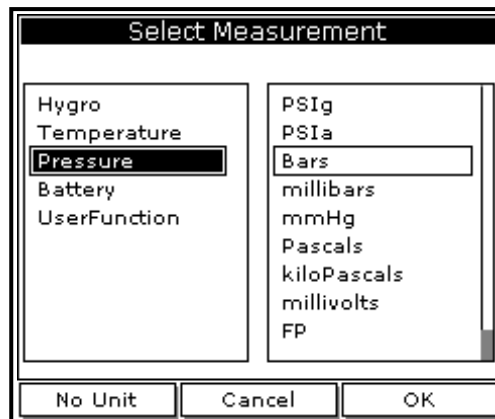

Figure 44: Select Measurement Window
1. Use the **[▼]** key to step to a box and press **[ENTER]**. A screen similar to *Figure 44* appears.